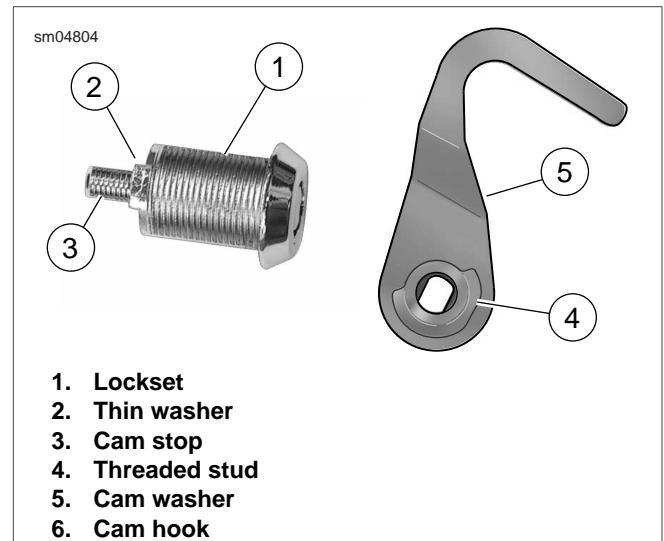

Figure 2-10. Lockset Mechanism
2. At outside of saddlebag lid, remove lockset. See Figure 2-10.
1. With cam stop facing outboard side of saddlebag lid, install lockset into hole. See Figure 2-10.
5. Align cam hook and cam washer as shown in Figure 2-10. With the cam hook toward the outboard side of saddlebag lid and cam washer on the inboard side, slide assembly down threaded stud.